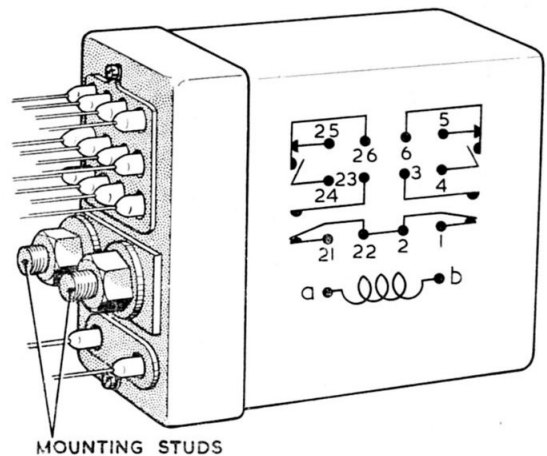

Fig. 1. Magnetic relay switch, Type M1093
1. The magnetic relay switch, Type M1093 (*fig. 1*) is a sealed, miniature type relay with normal duty contacts; the contact arrangement is two change-over (break before make), and two change-over (make before break).